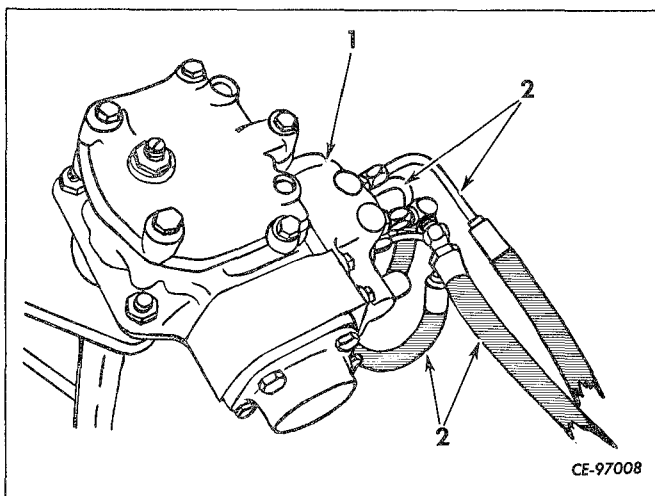

Figure 8-35
Install steering gear in tractor and secure gear box to frame with cap screws (3, Fig. 8-35),
Connect the hydraulic lines (2, Fig. 8-35) at the control valve (1).